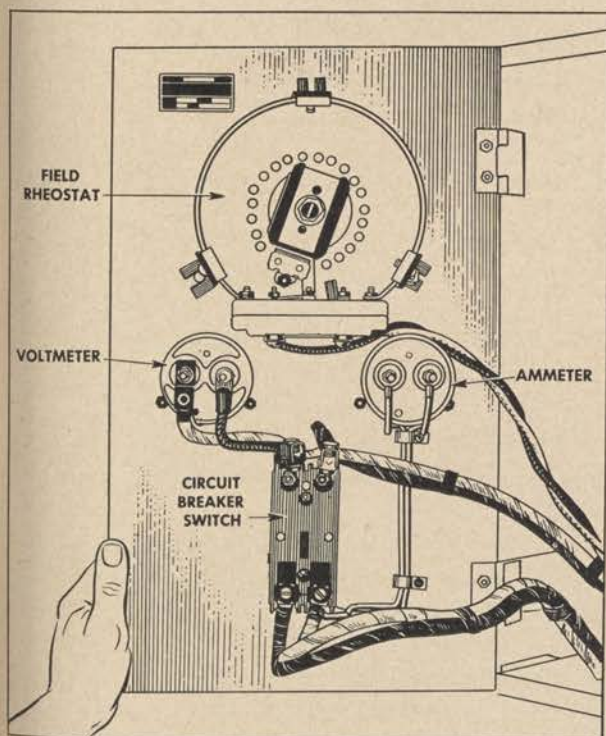

Figure 253. View in back of auxiliary generator control panel.
(2) *Replacing elements in control panel.* Replace defective units on the panel by opening the panel door and removing the unit from its mounting on the back of the door. (See fig. 253.) To open, remove two flathead screws at the front of the panel and swing the door panel out on its hinges, being careful not to impair the wiring connection.